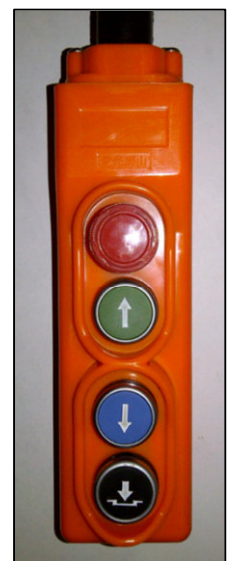

Fig.6
1. Using the Remote Pendant Control, raise the platform to full height by pressing the **UP ↑** button. (Fig 6)